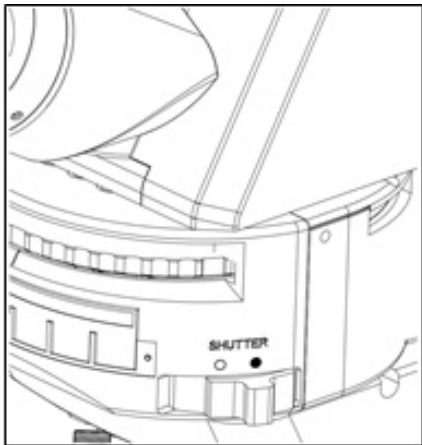

Fig. 27
- ★ When the upper (reflected) illumination is not used, change “SHUTTER” ③ position in Fig. 27 to the closed position “●”.